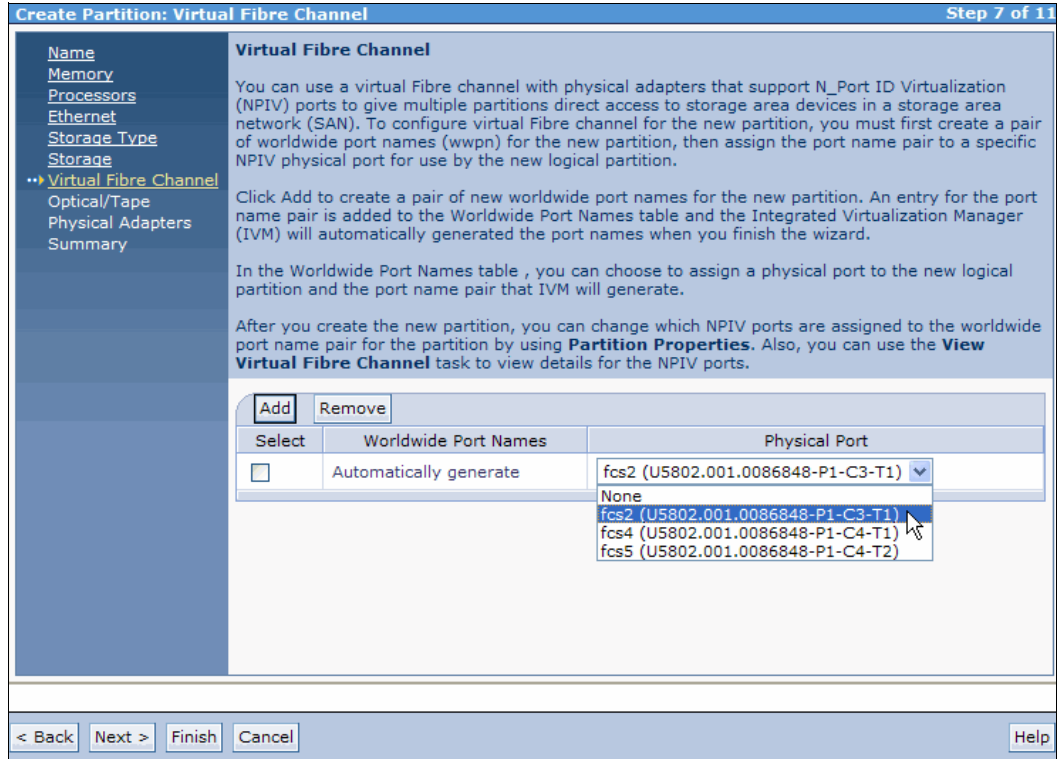

Figure 4-44 Virtual Fibre Channel adapter port selection
- Under the Physical Port column, select the wanted physical port for the virtual Fibre Channel adapter, as depicted in Figure 4-44. Click **Next**.